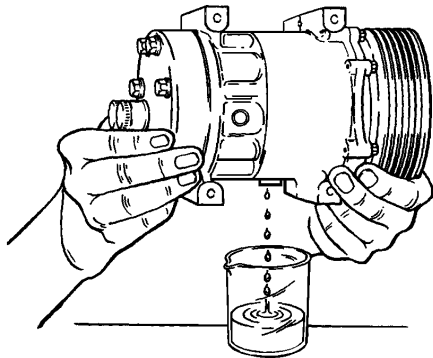

Figure 44 Drain as Much Oil as Possible
3. Remove the oil plug and drain as much oil as possible into a suitable calibrated container (refer to Figure 44).